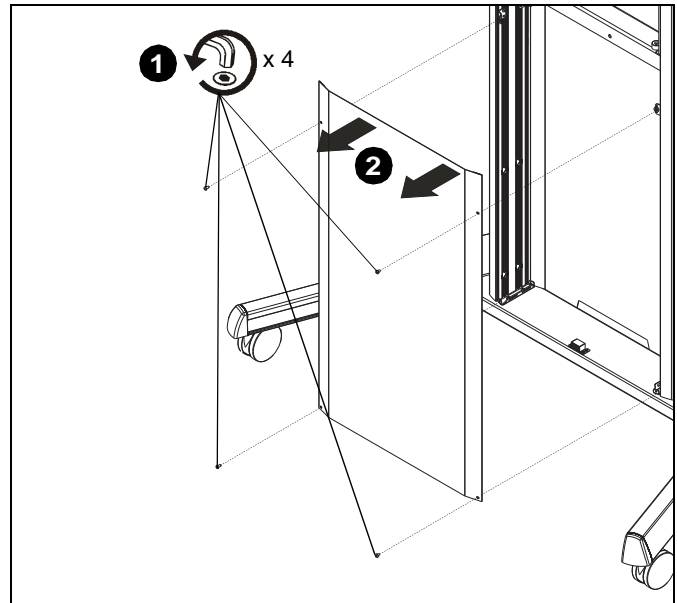

Figure 13
1. Remove four button head cap screws holding front cover to cart. (See Figure 13)
2. Pull front cover away from cart. (See Figure 13)